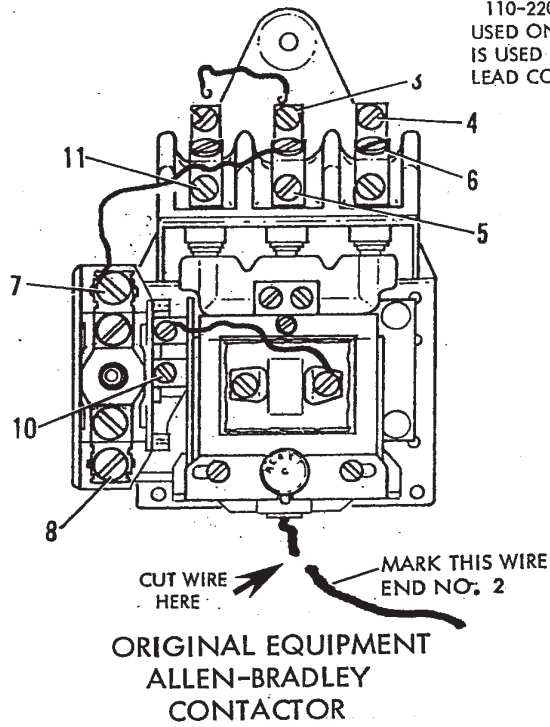

FIGURE 1
3. Select the illustration of the contactor you wish to replace. Refer to *Figures 1, 2, and 3*.